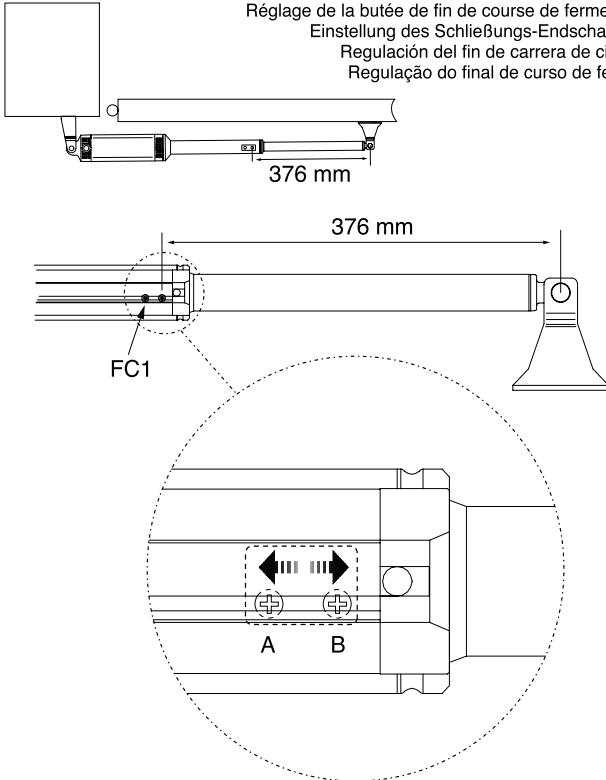

Fig. 14
8.2) Adjustment of the opening limiting devices (Fig.14):